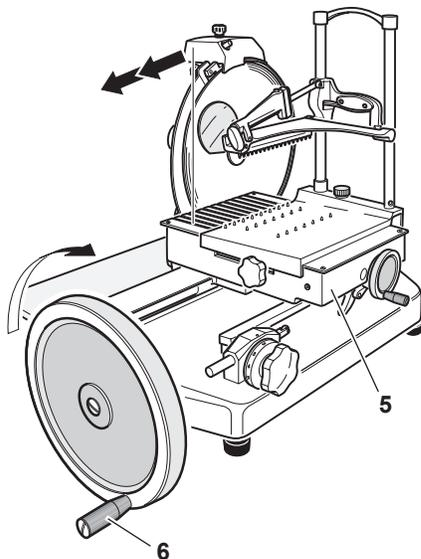

Figure 11-1
1. Turn the flywheel handle (6) clockwise in order to move the carriage (5) to its forward position (towards the operator) (Figure 11-1).